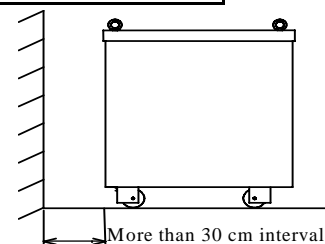

Fig.2
- Separate the machine more than 30cm from wall or other machine.(fig.2)